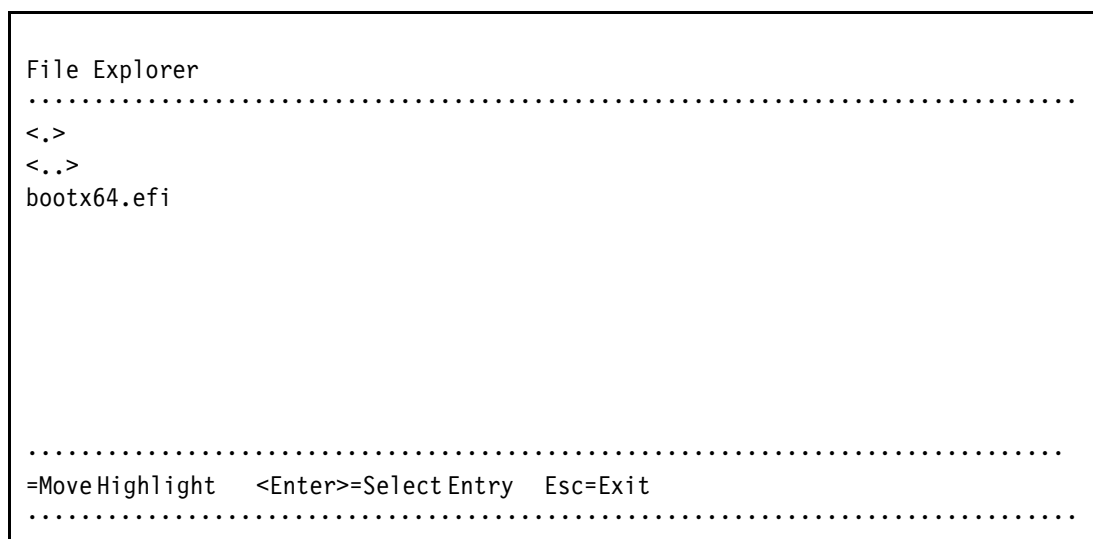

Figure 9-38 Selecting the <bootx64.efi> file
5. Now that you are browsing the DVD, select **EFI**, select **BOOT**, and then select **BOOTX64.EFI** (Figure 9-38). This file name might be different if you are booting other versions of Windows, VMware, or Linux.